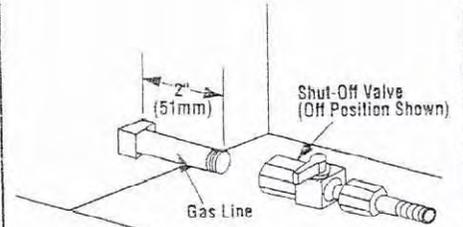
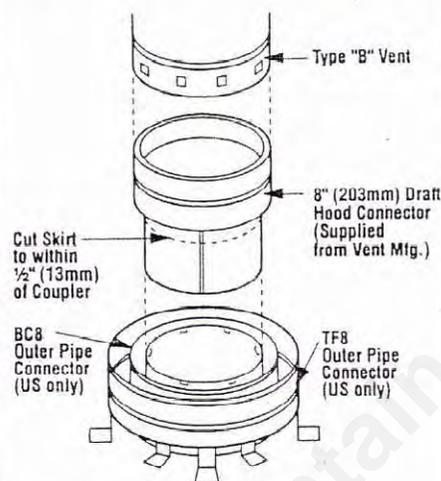

Figure 7
Figure 10
**Note:** Gas piping should be routed to the front side of framing in line with the gas controls (Refer to Figures 10 and 11 and to appliance specifications on pages 8, 9 and 10). The back side is framed for the right hand open GCR. This gas line should extend at least 2" (51 mm) into the control compartment at the time connection is to be made (Figure 7).
**Note:** Before installing the complete vent system, it is important that the flue damper operates correctly after the vent has been installed. When installing a Type B venting system, it is suggested that a draft hood connector (DHC) be the first vent component attached to the appliance flue collar (Figure 10). It may be necessary to trim or crimp the DHC skirt in order to properly adapt to the collar without interfering with the flue damper. After the first vent component has been attached to the flue collar, check the flue damper to ensure that there is no interference.